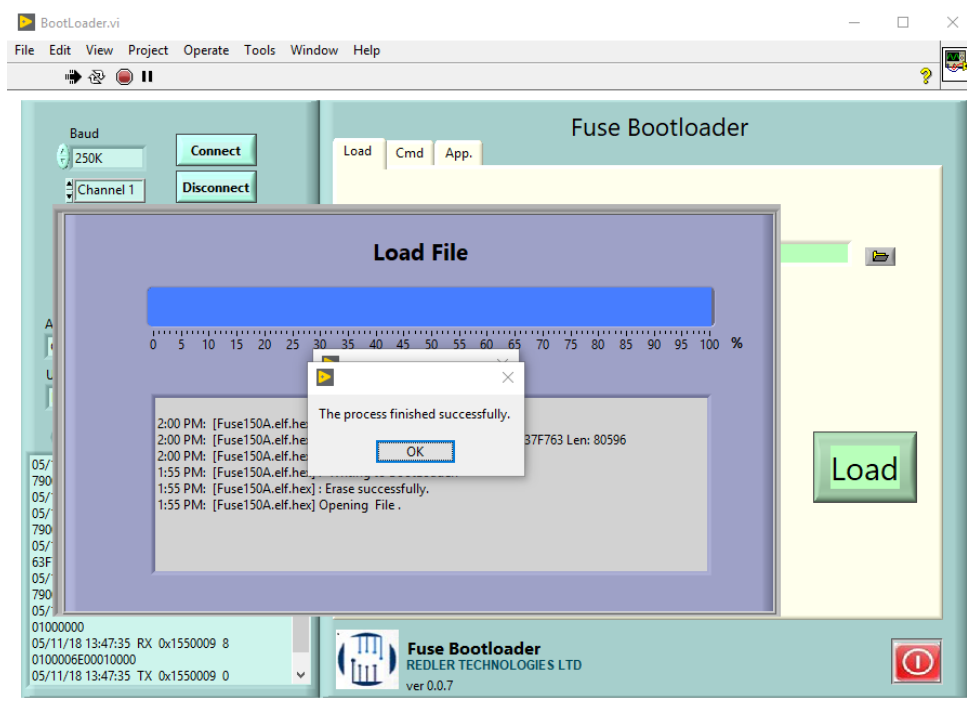

Figure 40 Bootloader GUI Step 6
9. Press OK and close the bootloader GUI (see fig. 40).